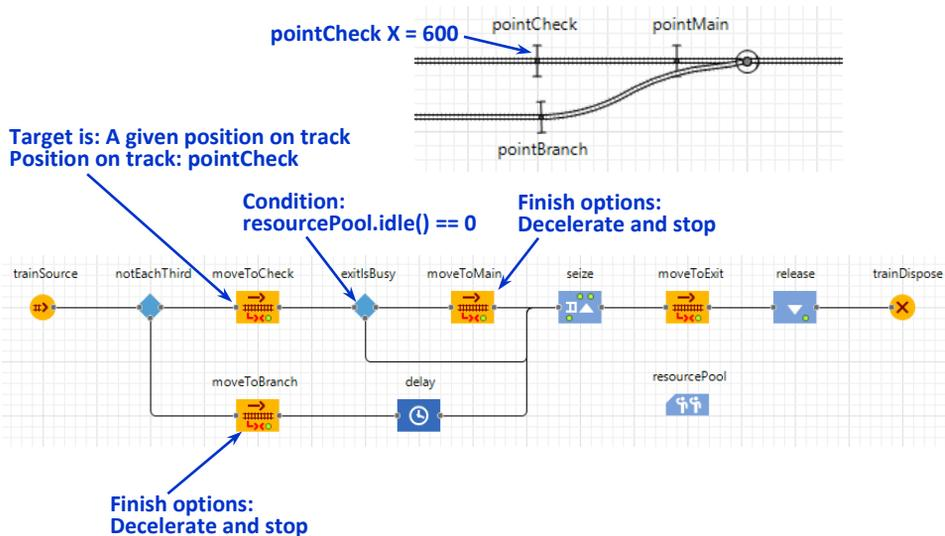

Figure 9.20 The flowchart modified to model deceleration
22. Add one more **Position on Track** element on **trackB** at X=600 (see Figure 9.20). Name it **pointCheck**.
23. Insert two blocks between the **true** port of **notEachThird** and the input port of **moveToMain**: **TrainMoveTo** and **SelectOutput** as shown in Figure 9.20. Call them **moveToCheck** and **exitIsBusy**.